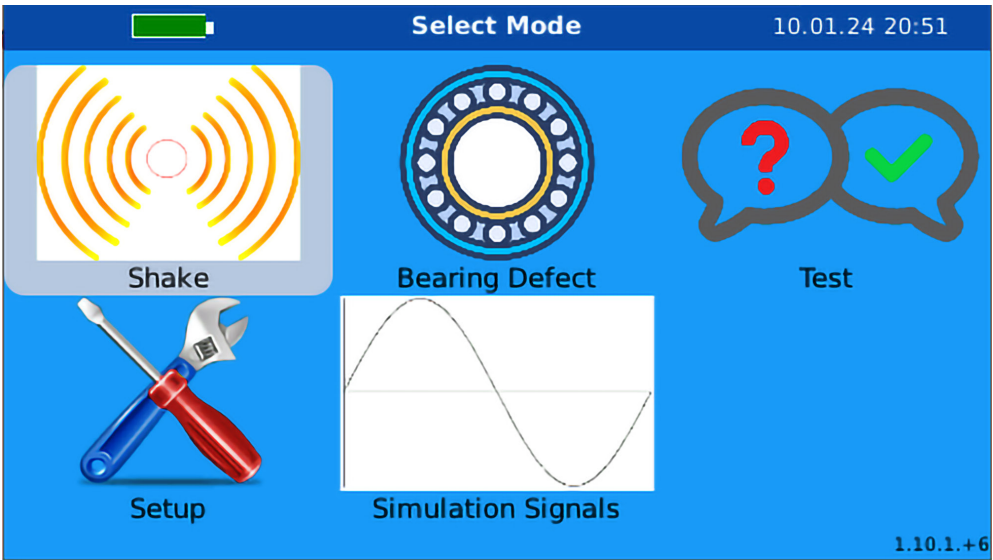

Figure 7. Choose "Shake" from the main menu
- 1. From the main menu, select **Shake** to open the shake mode screen (Figure 7).